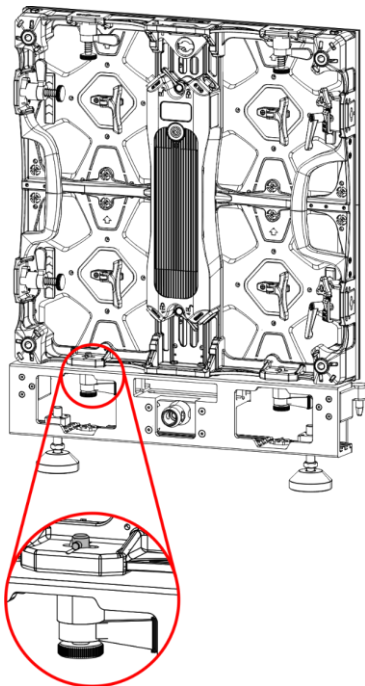

Fig. 44
- 05) Make sure that the **pins (E)** are firmly locked in the fast-lock opening on the bottom of the LED screen, as shown in Fig. 44.